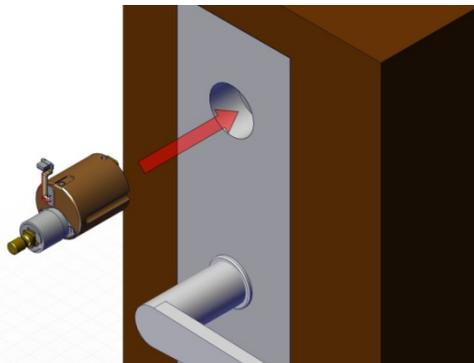
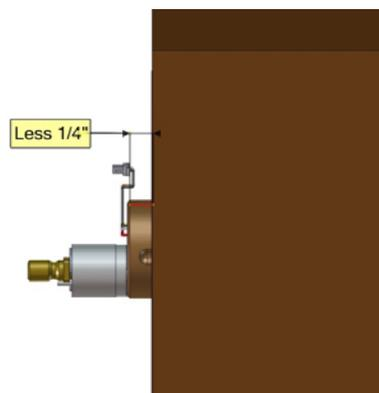
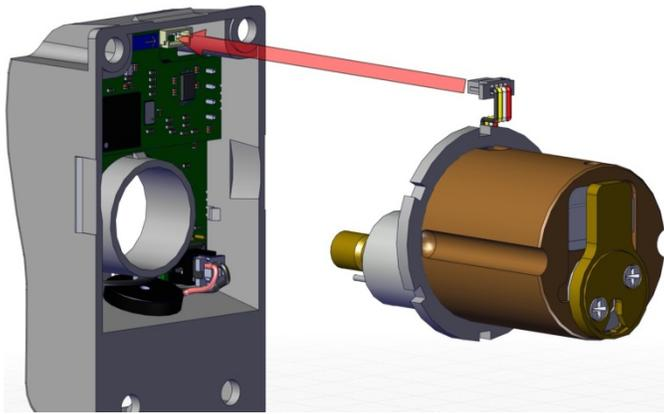
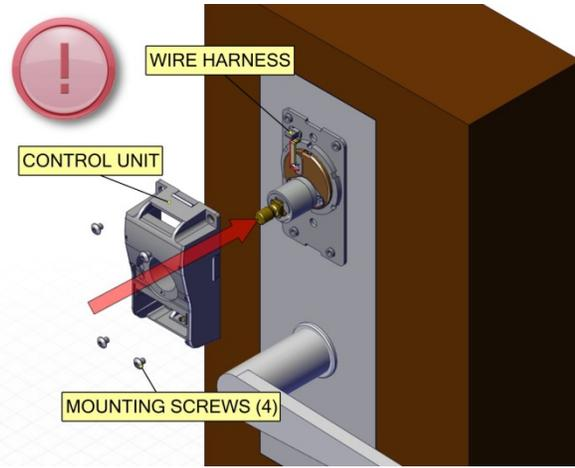

Fig. 5
Fig. 6
Fig. 12
Fig. 13
Screw the M100 into the cylinder mounting hole on the mortise hardware (Fig. 5). It is important to not over tighten, or to keep too loose on the door. The face of the M100 cylinder should stand proud of the escutcheon approximately 3/16"-1/4". Please also see (Fig. 12) before proceeding (Fig. 6).
Step 5: Connect control unit to wire harness and install 4 mounting screws (Fig. 12 and Fig. 13).
Thumbturn is not out far enough refer to Step 4, Fig. 12.
Cylinder is protruding out to far (included are optional spacers for proper spacing of cylinders) refer to Step 4, Fig. 12.